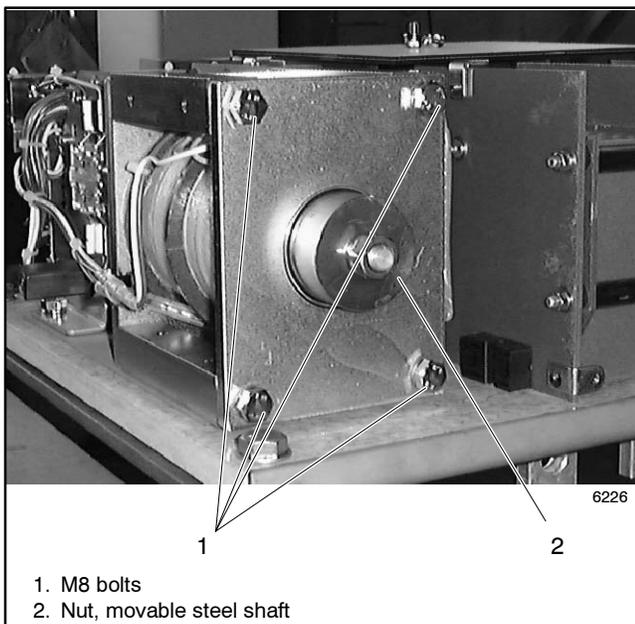

Figure 6-30 Closing Coil Bolts and Nut
3. The closing coil is spring-loaded. Hold the closing coil securely and remove four M8 bolts. Remove the closing coil. See Figure 6-30.
- c. Replace the four M8 bolts. See Figure 6-30.